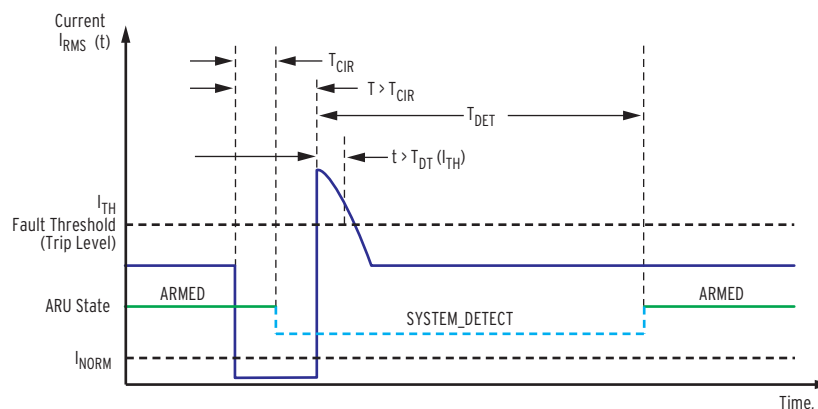

Figure 13 Loss-of-Current Inrush Lockout Example
The SEL-ARU will not trip after detecting loss-of-current. The trip prevention feature of the SEL-ARU is referred to as loss-of-current activated inrush restraint, or current Inrush Restraint (IR). The IR feature differentiates between the opening of upstream interrupting devices (e.g., reclosers or load transfer switches) and actual fault current, preventing false indication of faults. Without the IR feature, the SEL-ARU could detect fault-level currents from the inrush of current resulting from the recloser performing its closing action. The SEL-ARU constantly monitors the load current for IR events, and it uses the detection of such an event to direct the state of operation, as shown in *Figure 13*.
Figure 13 shows an IR event, followed by current that exceeds the fault threshold for a period long enough to satisfy the dynamic trip (DT) feature. The SEL-ARU, however, ignores the inrush current and continues with System Detection.